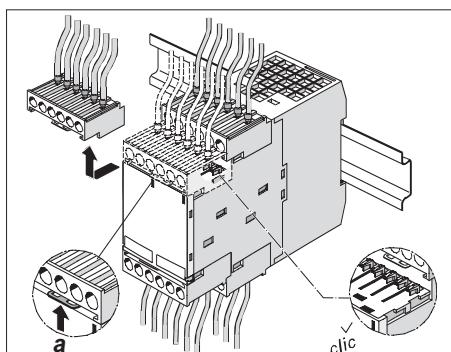

Fig. 2: Removing and fitting coded connection terminals
- ▶ To remove the coded connection terminals, push away locking spring **a** and pull off terminal to the front (see Fig. 2).